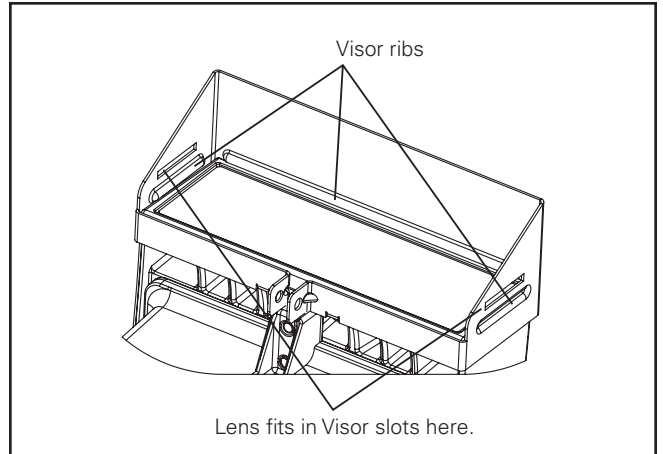
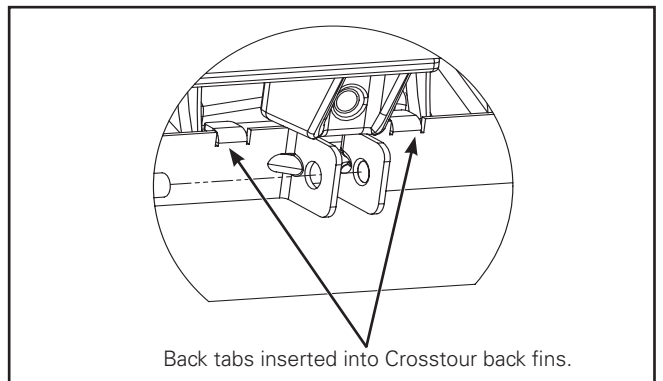
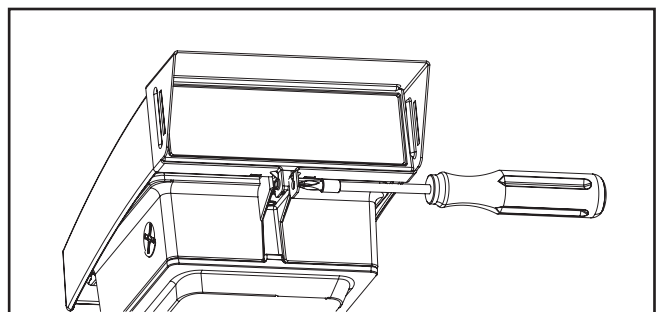

Figure 6.
Figure 7.
Figure 8.
- A. For visor installation only. Select the correct size lens (Small: 7W, 18W, 26W models. Large: 38W model). Remove protective film on the impact guard lens. Insert the lens into the corresponding slots of the visor by flexing the visor (Figure 6).
- B. To attach the visor, select the correct visor size. Slide the visor around the front Crosstour housing. The visor ribs should rest on the bottom surface of the Crosstour (Figure 6). Seat visor back tabs into the Crosstour fin cavity (Figure 7). Insert the 8-32 x 3/4" long, thread forming screw through the visor screw hole and tighten until visor is secure. Tighten/torque to 20-25 in-lbs. (Figure 8.).